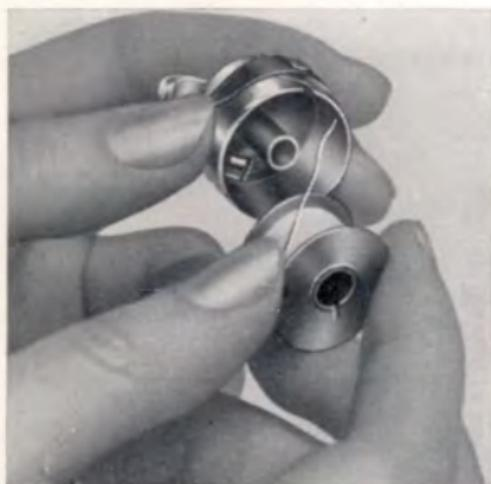

Fig. 27
- a) With the left hand, hold bobbin case between thumb and forefinger in such a way that the slot in the bobbin case edge faces upwards and its open side is towards the right, as shown in Fig. 27.
- b) Hold bobbin between thumb and forefinger of the right hand so that the end of the thread is in the position indicated in Fig. 27.